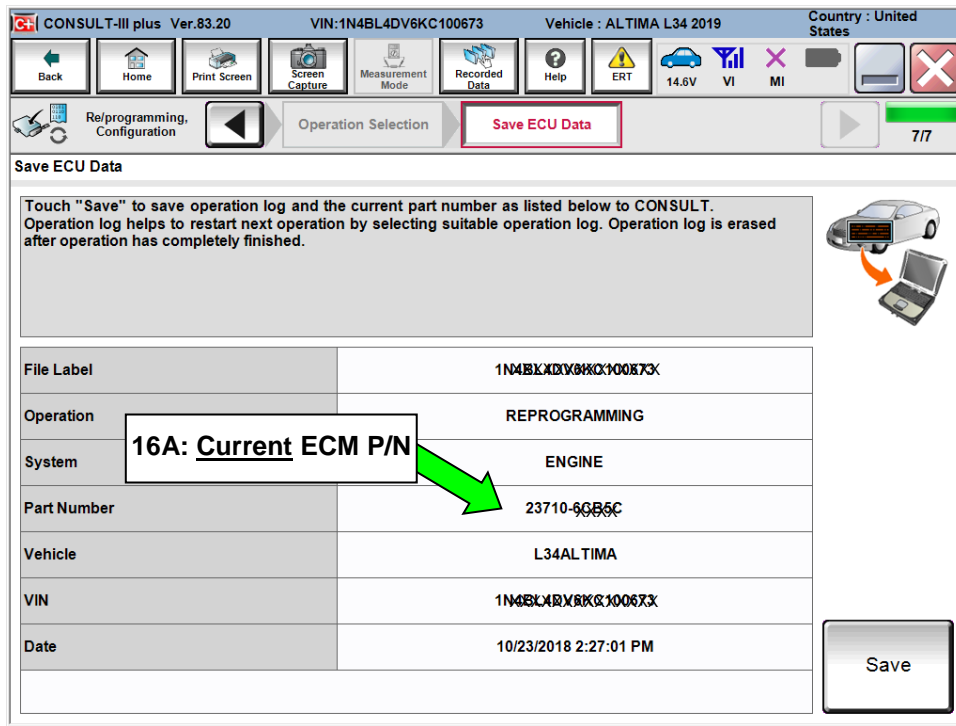

Figure 7
16. When you get to the screen shown in Figure 7, confirm this bulletin applies as follows.